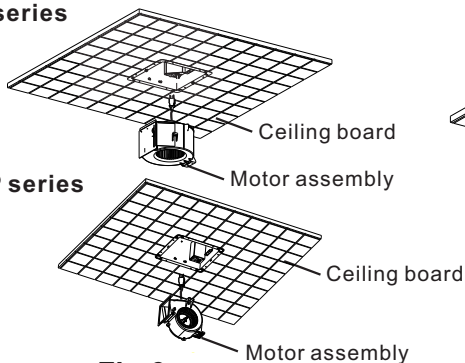

Fig.6
7. Insert the motor assembly into the housing and secure the motor unit to the housing by screw (M5X12) (Fig.6)